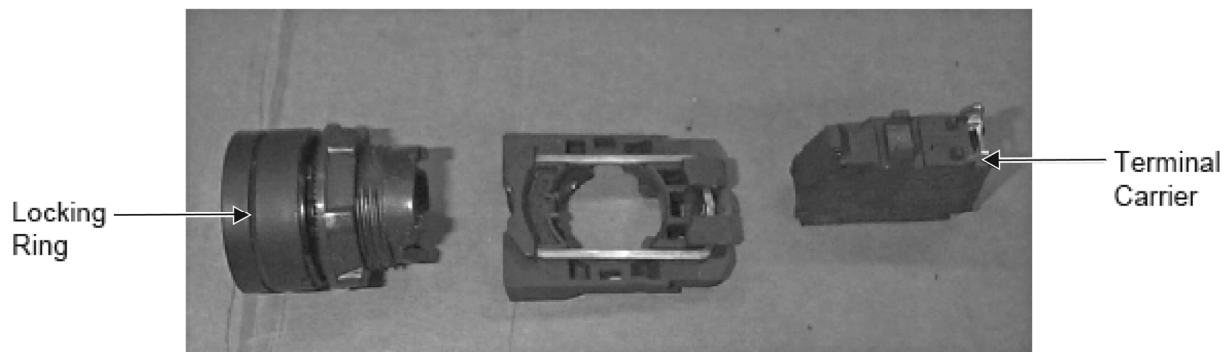

Fig 24 RCD push button connector (exploded view)
90.1 Release the terminal carrier from the rear of the switch (Fig 24) and identify, tag and disconnect the cables.